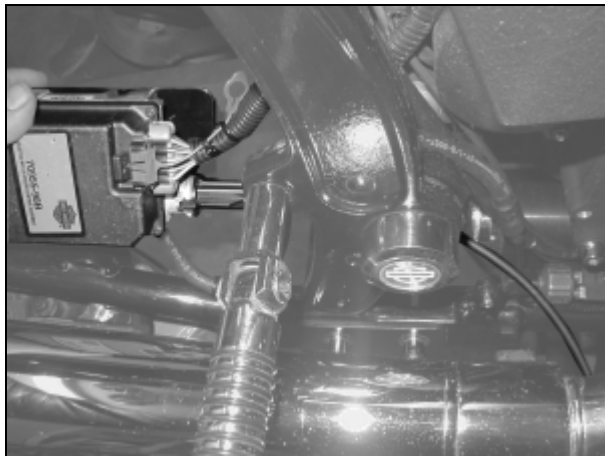

Figure 2. Main Cruise Module
- See Figure 2. Uncoil cruise control cable attached to main cruise module. Feed cruise control cable out through right side frame, above lower frame member and under rear fork pivot shaft and exhaust. Temporarily leave cruise control cable protruding out right side of motorcycle. Connect 10-place female Packard connector on CCWH to main cruise module.